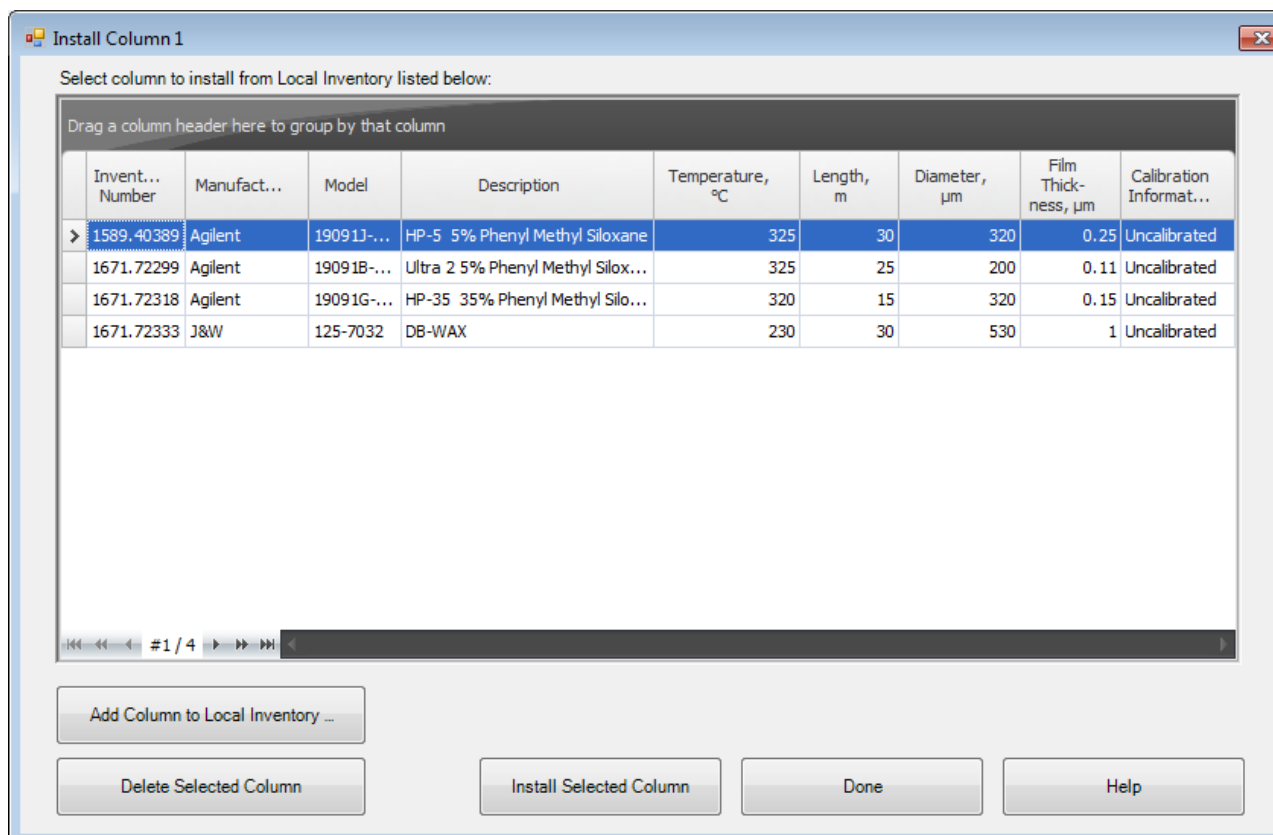

Figure 20 The local inventory of columns
- 3 To select a column from inventory, click **Replace with Inventory** to display the **Install Column 1** dialog (Figure 20 on page 40).